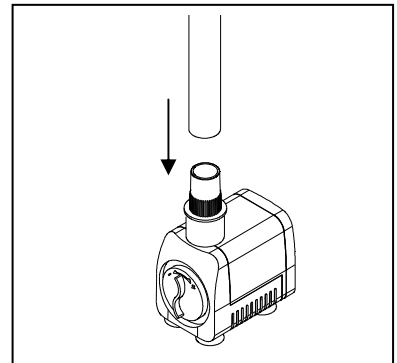

Fig. 4
4. Connect the tubing to the pump using the supplied adapter. Fig. 4